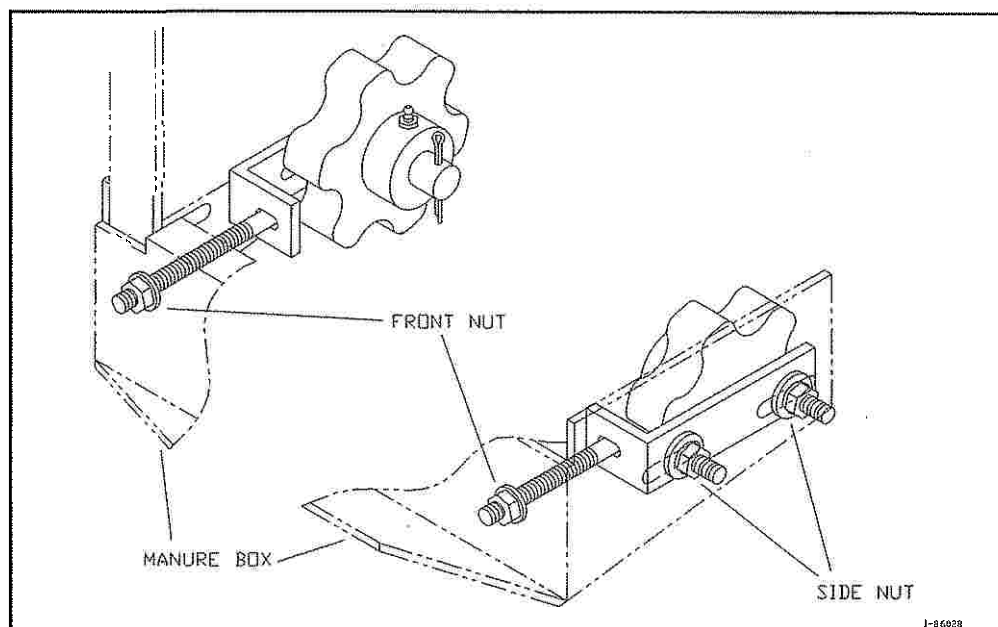

Figure 4A- Adjusting the Floor Apron Chain for Proper Tension
- Periodically check the floor apron chain for tension/tightness (refer to Figure 4A).
- d) If the chain needs adjustment, use a 1/2" wrench to loosen the two side nuts on each side of the spreader box as shown in Figure 4A. Turn the *front* nut clockwise or counterclockwise until correct tension/tightness is achieved. Repeat for the other side. *Make sure that the chains on each side of the apron are equally taut.*